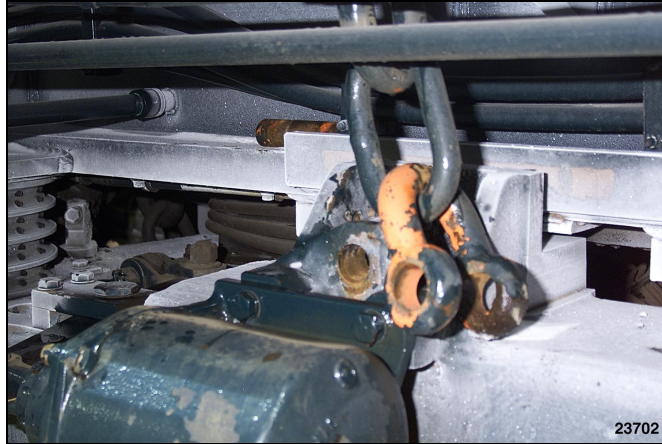

Figure 65 – Typical Carbody Interlock Links (HTCR Shown)
7. Attach carbody links to bogie flanges, Figure 65, using shackle assembly and new cotter pins.
When the trigger of the lockbolt tool is activated, Figure 65 the chuck jaws in nose of the tool assembly pull on the pintail, inducing an initial clamp load, and the nose anvil pushes on the collar to remove any gap.